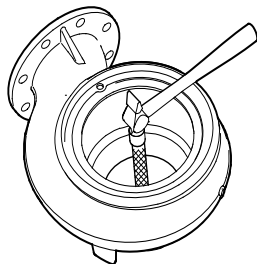

Fig. 21 Fitting the seal ring
- Moisten the seal ring (46) with soapy water and fit it in the pump housing (50).
- Knock the seal ring home in the pump housing using a punch (D). See fig. 21.